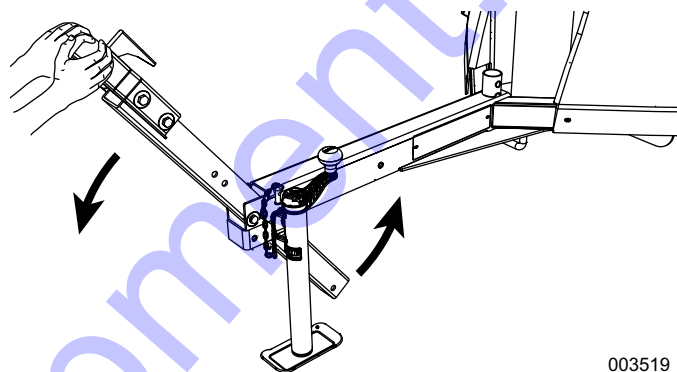

Figure 2-4. Lower Trailer Tongue into Tow Position
6. See Figure 2-4. Using both hands, slowly lower trailer tongue into tow position.